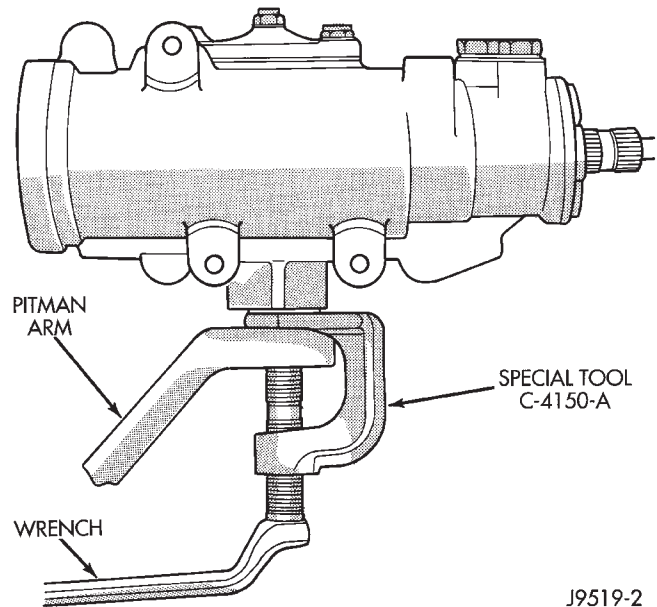

Fig. 4 Pitman Arm Removal
- (1) Remove the cotter pin and nut from the drag link at the pitman arm.
- (2) Remove the drag link ball stud from the pitman arm with a puller.
- (3) Remove the nut and washer from the steering gear shaft. Mark the pitman shaft and pitman arm for installation reference. Remove the pitman arm from steering gear with Puller C-4150A (Fig. 4).